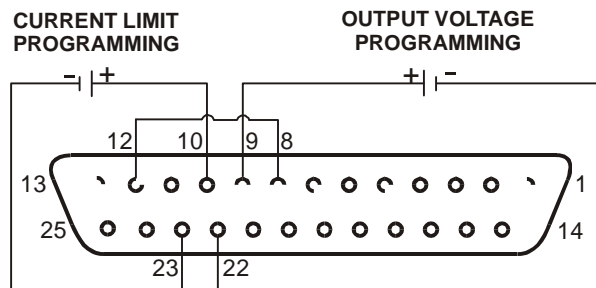

Fig.6-1: Remote voltage programming connection
- Connect the programming source to the mating plug of J1 as shown in Fig.6-1. Observe correct polarity for the voltage source.